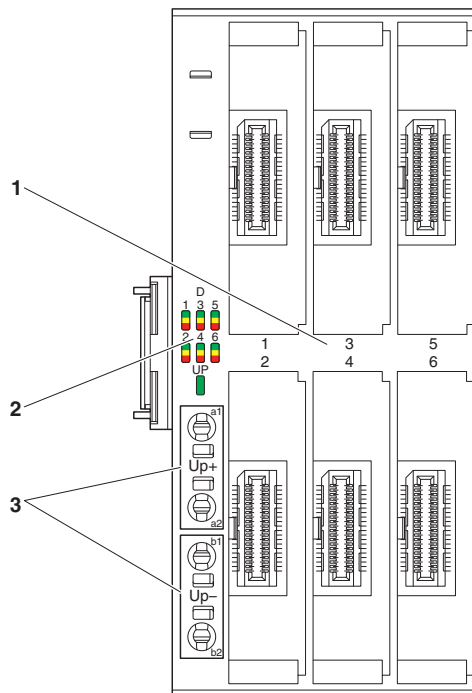

Figure 11-7 Markings of the slots, the LEDs and the terminal points
- Slots** The slots of the backplane are marked (1 in Figure 11-7).
- Indication elements** Diagnostic and status indicators are marked with the function, e.g., D, 1 ... 6, UP (2 in Figure 11-7).
- Terminal points** On a backplane, terminal points for the 24 V voltage supply of the I/O supply are available. These are marked with UP+ (a1, a2) and UP- (b1, b2) (3 in Figure 11-7).